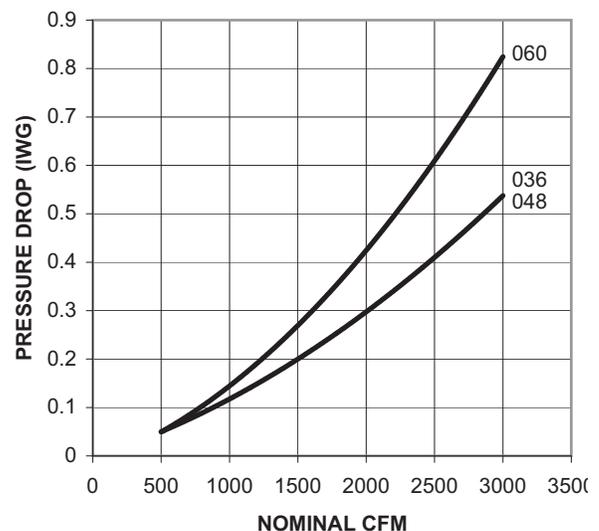

Figure 23: Pressure Drop Across Coil
4. Knowing the pressure drop across a dry coil, the actual CFM through the unit can be determined from the curve in Pressure Drop vs. Supply Air CFM (Figure 23).